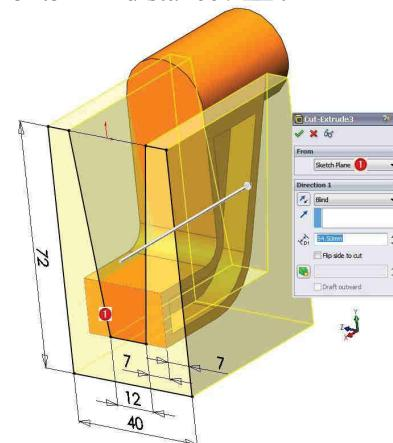

Fig. 2.6
**7 Trasare schiță 72x40:** Comanda Sketch – Fig. 2.6 – plan ①.
**8 Extrudare contur decupare 72x40:** comanda Extruded Cut – Fig. 2.6 - Blind /  $\Delta_{D1}$  54.5 mm distanță /  $\checkmark$ .
**7 Sketching of the 72x40 contour:** The Sketch command – Fig. 2.6 – plane ①.
**8 Extrusion of the 72x40 cut contour:** the Extruded Cut command - Fig. 2.6 – Blind /  $\Delta_{D1}$  54.5 mm distance /  $\checkmark$ .